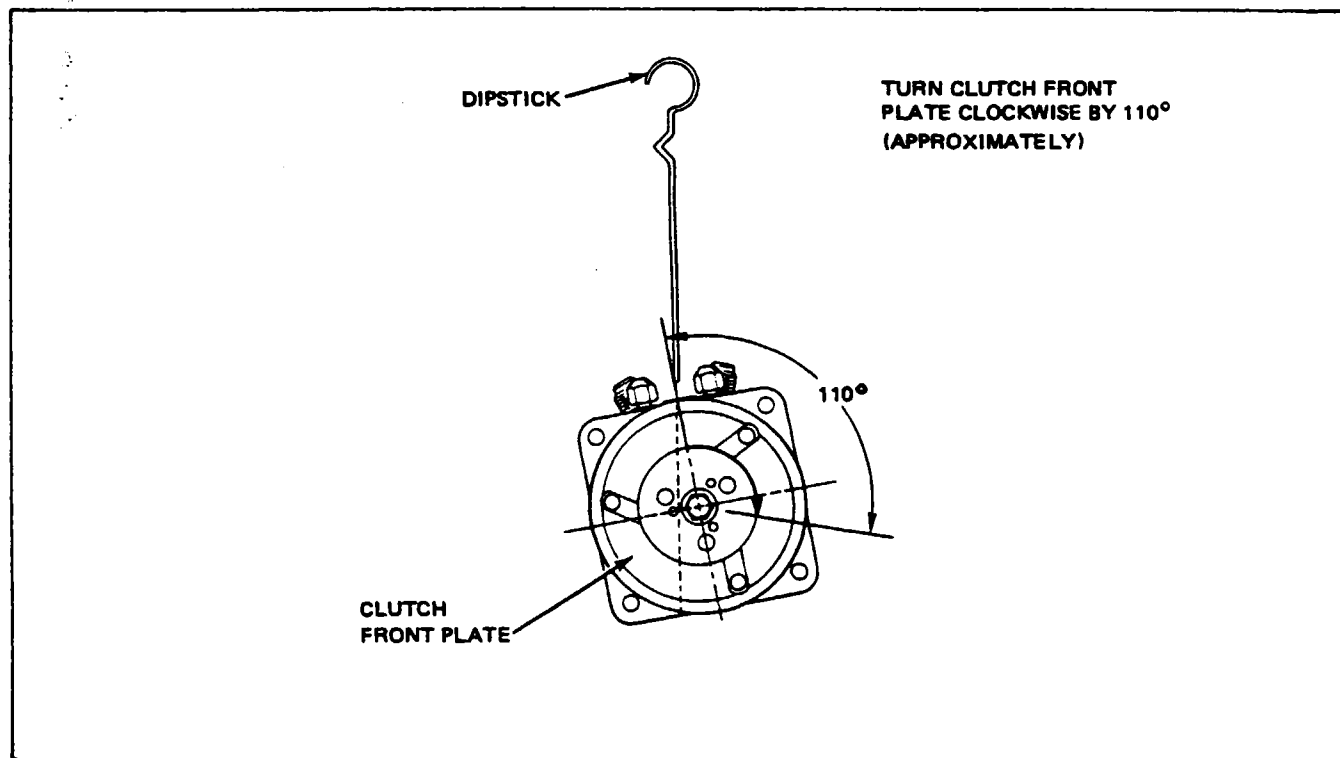

Figure 14-32. Rotation of Clutch Front Plate (Sankyo Compressor Oil Check)
- e. Rotate the clutch front plate clockwise by approximately 110°. (Refer to Figure 14-32.)